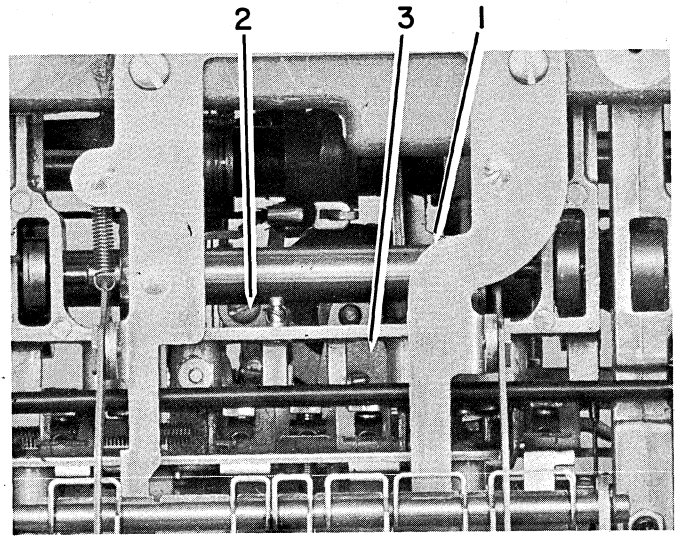

FIGURE 14. Rotate Spring Replacement
- b. On newer machines, remove the lower right and left screws and back out the upper right screw 1/4" (Figure 14).
7. Remove the striker and rotate-spring retaining plate (#3, Figure 14). The rotate spring can now be removed. Note: In newer machines there may be a spring clip (PN 1141238) that prevents the spring from being trapped in the pulley notch. If not, one should be added on re-assembly.